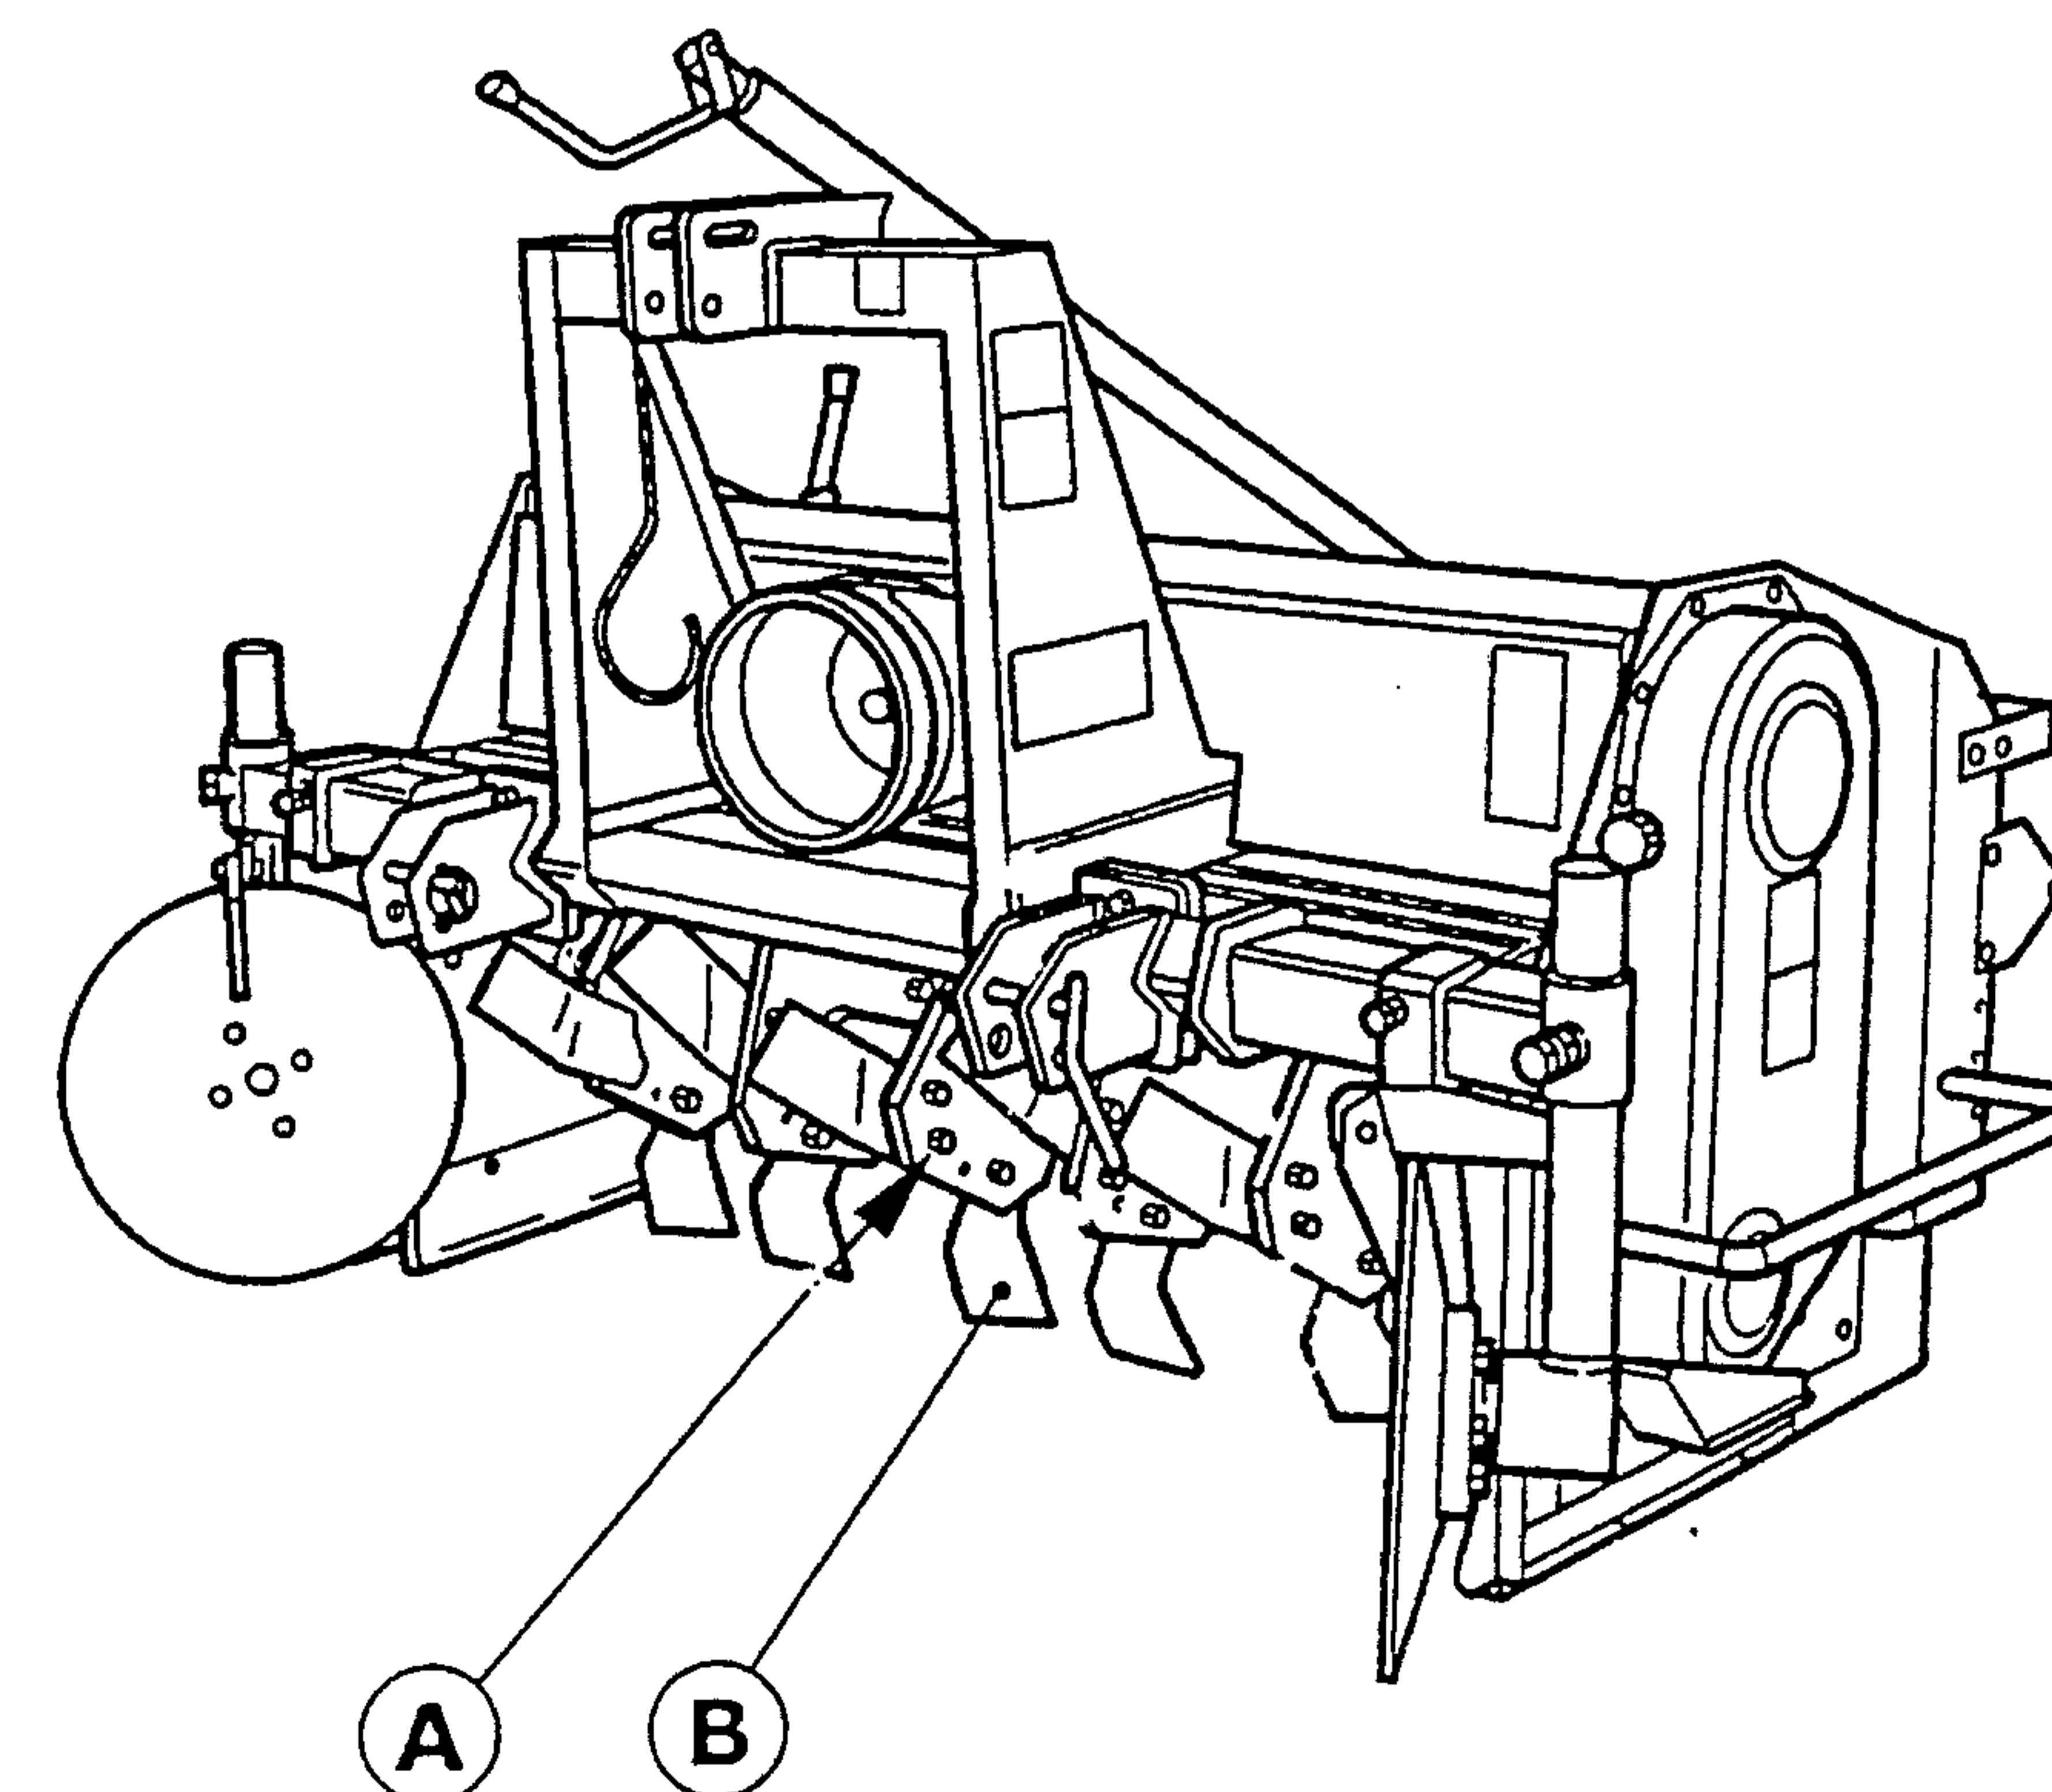

Fig. 13
- 2) Unscrew the bolts (A - Fig. 13).
- 3) Replace the blades (B) and the bolts, if necessary.